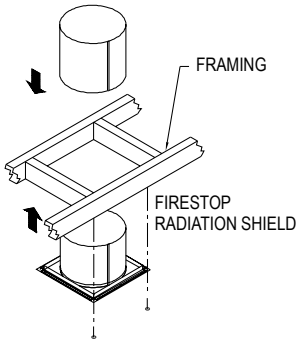

Figure 8
Note: a Firestop Radiation Shield is not installed where the chimney penetrates through the roof. The Firestop Radiation Shield is installed on the underside of the ceiling/floor framing, with the cylindrical "tube" portion of the shield pointing upward. (**Fig 8**). Use a minimum of either (1) 8 penny nail or (1) #8, 1-1/2" wood screws per corner. Refer to **Table 2** for framing requirements.